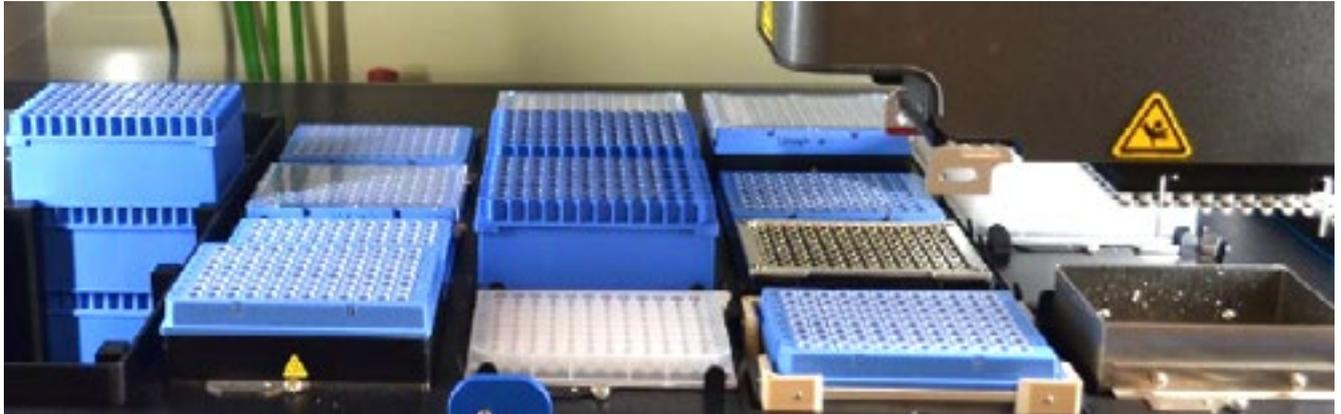

Figure 7. Deck layout when the PCR Master Mix is added to the deck.
**Note:** The “Wash 1” buffer plate must be removed before loading the PCR Master Mix plate, as shown in Figure 7.